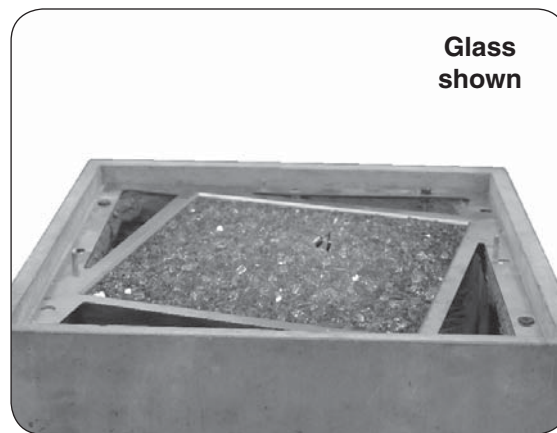
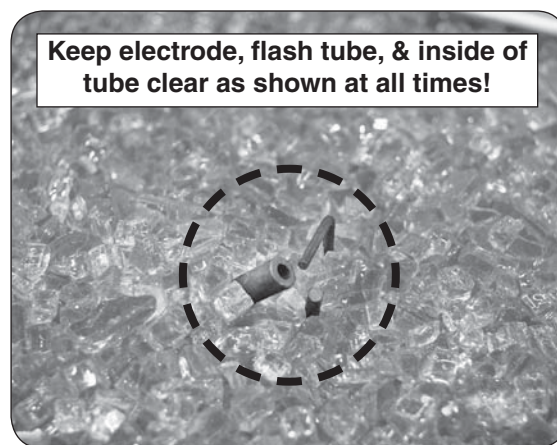

Fig. 18-1 Glass placement
Fig. 18-2 Required clearance
Pour the glass media (glass/gems) evenly into the burner pan (see Fig. 18-1 and Fig. 18-2).
- **Keep the electrode, flash tube, and inside of the flash tube clear of glass media and any other items/debris at all times. This will allow for proper ignition and operation. DO NOT COVER.** See Fig. 18-2.